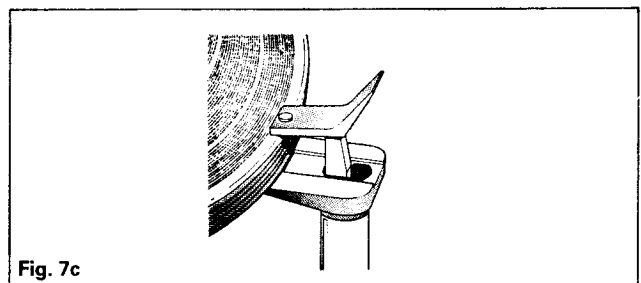

Fig. 7c
- 2 Place up to five 33 $\frac{1}{3}$ rev/min, 12in records on the spindle, with the edge of the lowest record resting on the support platform (7.8). Lift the record steady until it can be swung inwards and down to bear lightly on the top of the record stack. See figure 7c.